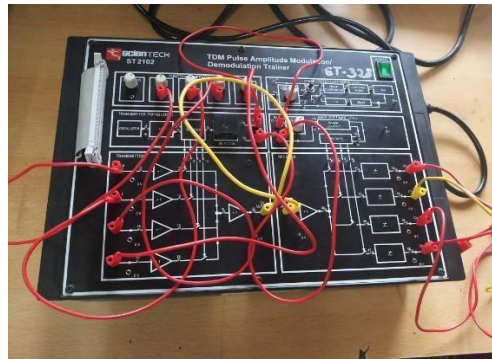

Figure20.2: TDM transmitter and receiver
1. Make connections as shown in figure 20.2.
4. Connect output of TDM transmitter to input of TDM receiver as shown in figure 20.2.